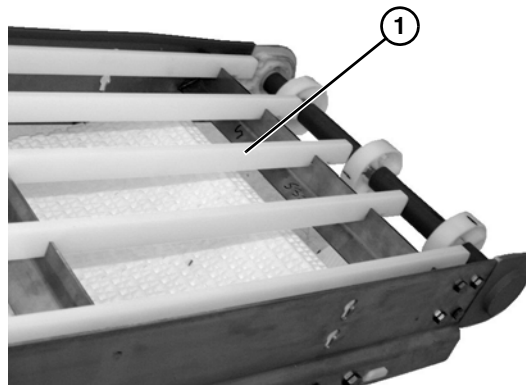

Figure 38
2. Remove worn wear strips (**Figure 38, item 1**) from frame notches.